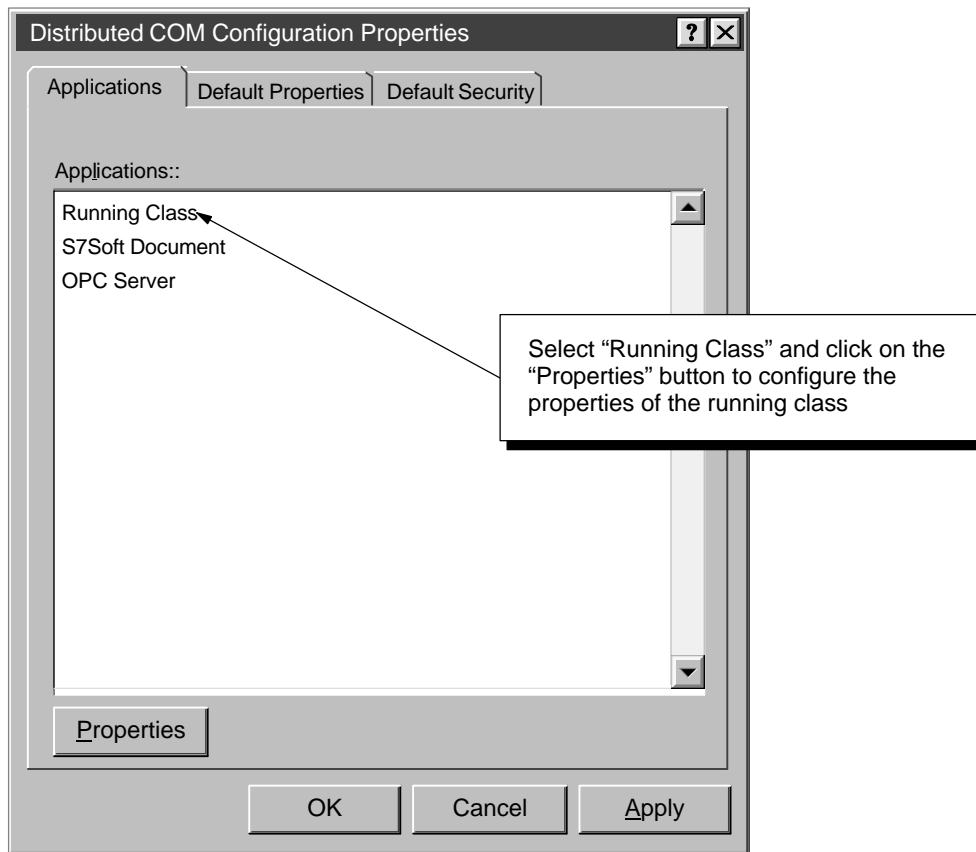

Figure E-9 Selecting the Running Class for DCOM
1. Click on the “Applications” tab of the “Distributed COM Configuration Properties” dialog box. See Figure E-9.
You do not configure the running class properties for the client computer. You define the running class on the server computer. See Figure E-9.